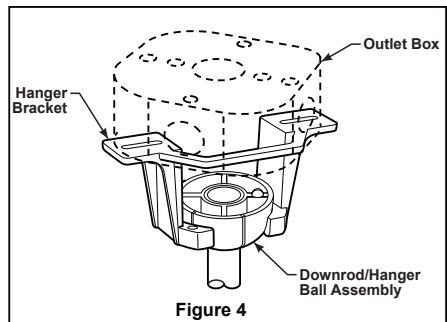

Figure 4
4. Thread downrod into the downrod support on top of the motor. Install the clevis pin by aligning the holes in the downrod support with holes in the downrod. Secure clevis pin with hairpin clip. Tighten the two set screws with nuts in the downrod support. (Figure 4)
- ☐ 2. Carefully lift the fan and seat the downrod/hanger ball assembly on the hanger bracket that was just attached to the outlet box. Be sure the groove in the ball is lined up with tab on the hanger bracket. (Figure 4)
3. Connect wires using connectors as shown in Figure 4.
- ☐ 4. To make fan operational, install two 3V batteries (included) in hand-held remote transmitter, with fan power off. Then, follow the remote code setting process. If not used for long periods of time, remove battery to prevent damage to transmitter. Store the remote away from excessive heat or humidity. (Figure 4)